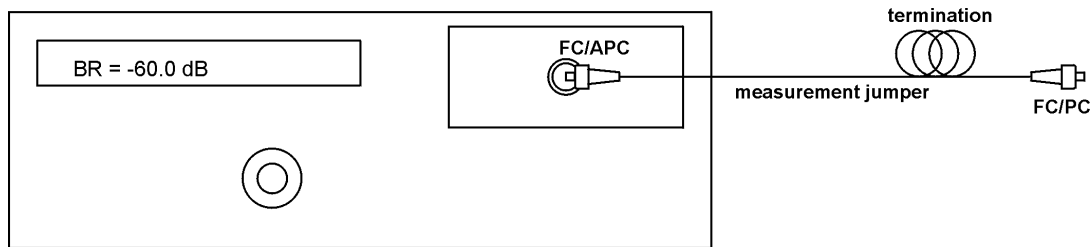
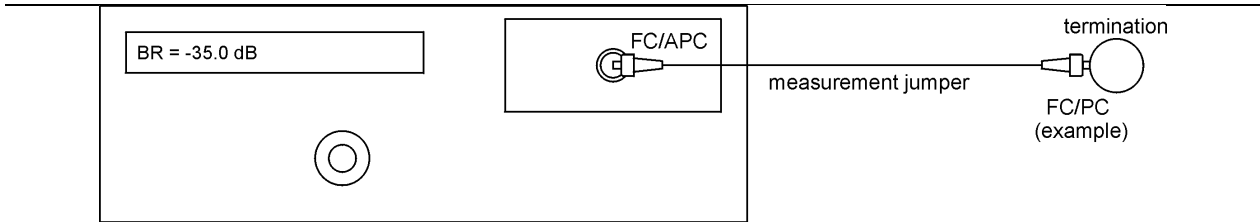

Figure 5a: Terminating the Jumper for BR Measurement for Single-mode (except 980nm)
Figure 5b: Terminating the Jumper for BR Measurement for Single-mode (980 nm only) and Multimode
1. Using the size of rod specified in the Inspection Report (see the **Customized Features and Test Data** section), wind the cable around the rod until the reading displayed on the RM meter no longer changes (approximately six turns). The diameter of the rod must be suitable for the type of fiber connected to the output port jumper and for the wavelength in use. To minimize any memory of the bends in the cable jacket, do not pull on the cable while winding, and occasionally wind the cable in the opposite direction (figure 5a).
1. Apply index-matching gel directly to the fiber end (figure 5b).
6. Terminate the measurement jumper just before the output connector, and hold the termination point steady (figure 5a for single-mode(except 980nm), and figure 5b for single-mode(980nm) and multimode).